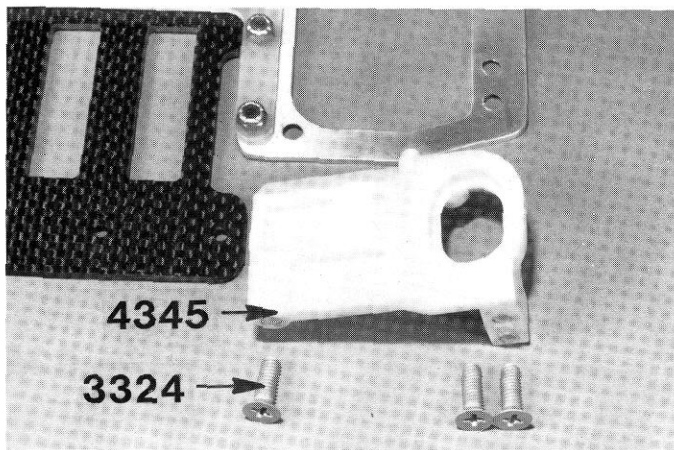

Fig. 25
□ **Figs. 25 & 26**— Mount the #4345 left hand plastic bulkhead to the lower brace using the three #3324 aluminum screws. Do not overtighten.